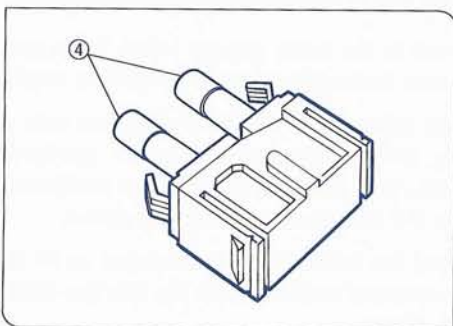

Fig. 21
2. Replace both fuses ④ with new ones. (Fig. 21)